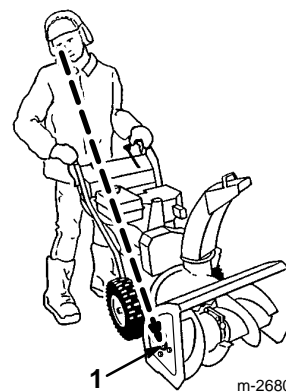

Figure 24
11. Ensure that the auger and the impeller do not rotate while the auger/impeller control lever is in the Disengaged position. Stand in the operator position and look around to the side of the auger housing (Fig. 24). A large screw head on the side of the auger housing will rotate whenever the auger and impeller rotate (Fig. 24). **If the auger and impeller rotate while the engine runs and the auger/impeller control lever is disengaged, stop the snowthrower immediately.** Refer to *Adjusting the Auger/Impeller Drive Belt* on page 21. If the problem persists, bring the snowthrower to an Authorized Service Dealer for service.